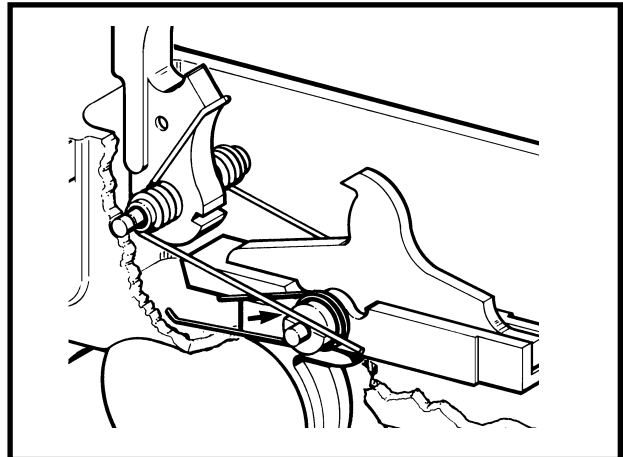

Figure 3-2-49 Position of the Hammer Spring
(1) Position the assembled hammer and hammer spring with the torsion legs resting on top of the trigger pin. See Figure 3-2-49;
(2) Align the hammer pin holes; and
(3) Insert the hammer pin from the left with the ungrooved end leading.